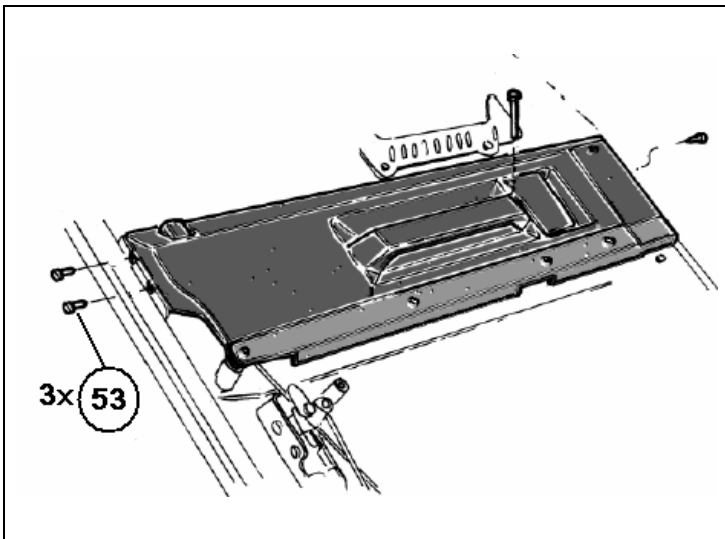

Figure 5-114. LH Door Accessories Assembly - Reassembly of Armored Door (5 of 6).
7. Reinstall the components on the door as shown in Figures 5-114 and 5-115 using the hardware removed from the armored door.